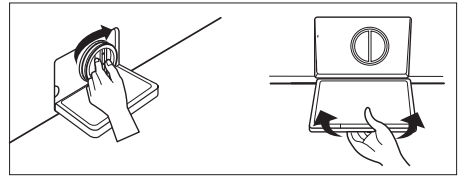

Fig. 15
- Insert the coin-trap cover and screw tight, close the service flap. (Fig.15)